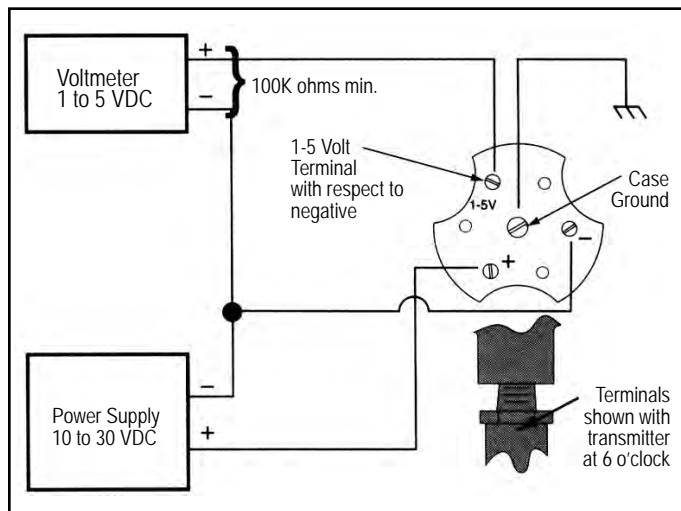

FIGURE 3
1. Connect the transmitter as shown in Figure 3. Case ground must be connected to earth ground to ensure EMI/RFI protection.